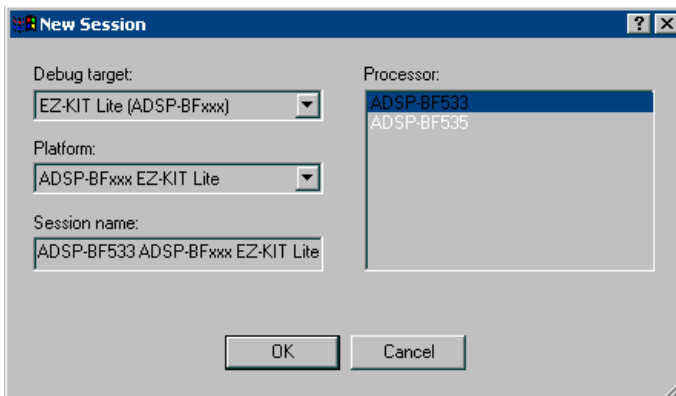

Figure 1-13. New Session Dialog Box
5. The **New Session** dialog box, shown in Figure 1-13, appears on the screen.